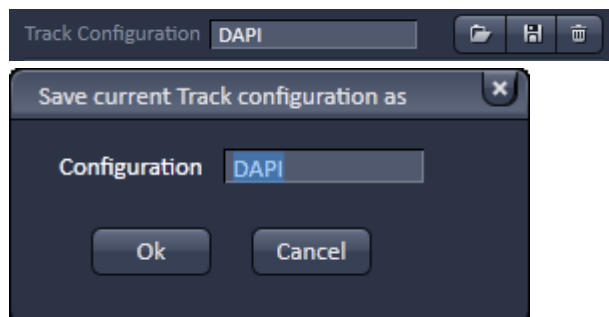

Fig. 20 Track configurations functions
- For storing a new track configuration open the **Channels** tool in the **Acquisition Parameter** tool group, click  and enter a desired name in the first line of the list box (Fig. 20), then click **Ok** to store the configuration.